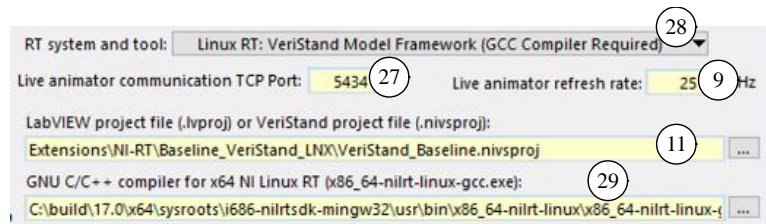

Figure 25. Appearance of the NI RT Target screen when the GCC compiler is needed.
1. **ESL LabVIEW or VeriStand:** no field is shown, i.e., (18) is hidden.
2. **Linux RT: LabVIEW:** no field is shown, i.e., (18) is hidden.
3. **Linux RT: VeriStand Model Framework:** a field is shown for the pathname of the CGG compiler (29) (Figure 25).